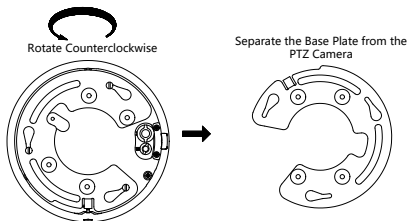

Figure 2-43 Separate the Base Plate from the PTZ camera
1. Rotate the base plate counterclockwise to separate it from the PTZ camera, as shown in Figure 2-43.